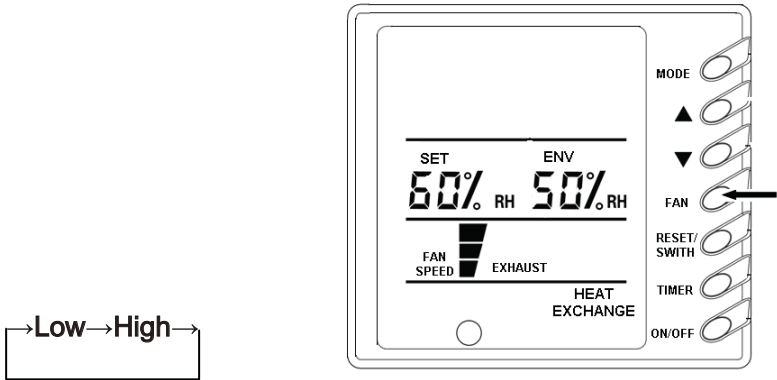

Fig.5
(2) During air discharge and air supply, with each press of FAN button, the fan speed will switch between high speed and low speed(Fig.5).